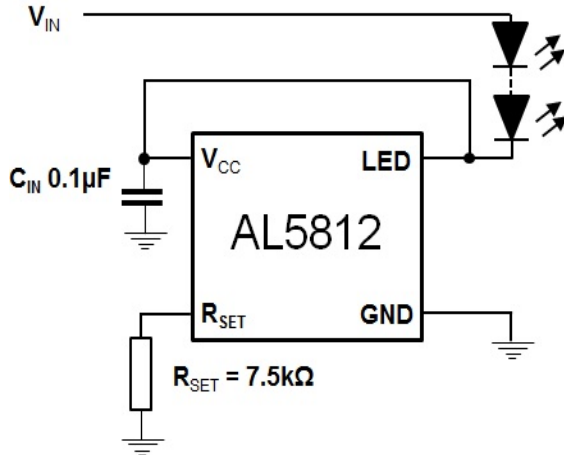
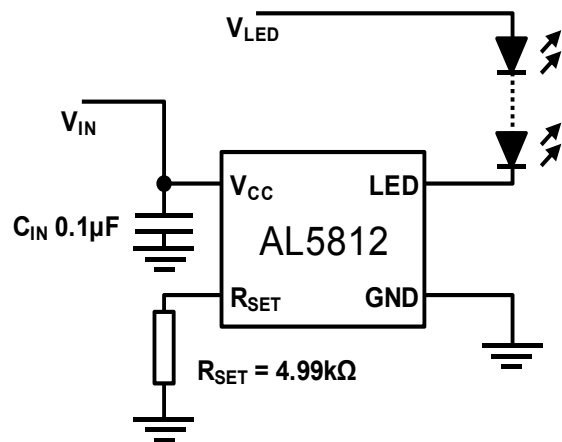
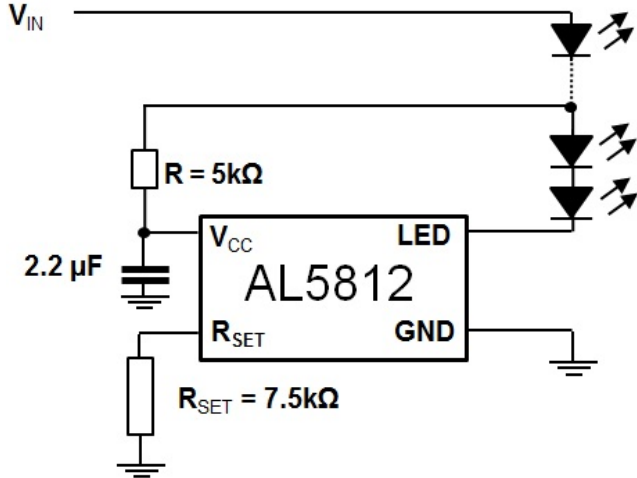
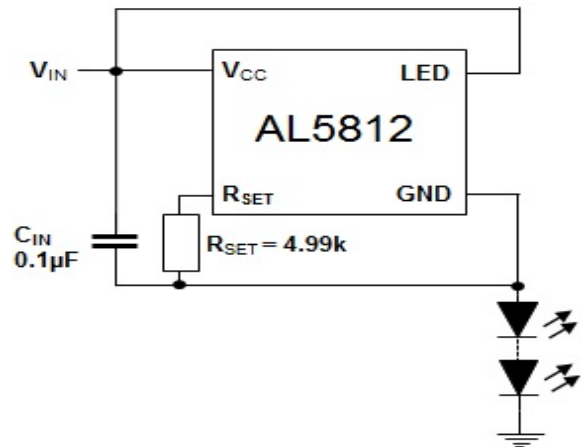

Figure 13 Low Side Current LED Setting
Figure 14 Low Side Drive – Separate Supplies
Figure 15 Low Side LED String Tapping
Figure 16 High Side Current LED String
- 13. The AL5812 has its V_{CC} pin connected to its LED pin, which are connected to the positive input supply voltage. R_{SET} is connected to AL5812 GND pin, which is connected to the anode of the LED chain. This creates a high side driver of the LED chain. See Figure 15.
The AL5812 is a Linear LED driver and in normal operation has the LEDs connected to the same potential as its V_{CC} pin and regulates the LED current by sinking current into its LED pin see Figure 13.
The AL5812 with its 60V capability on its supply pin, V_{CC} , and its LED drive pin allows it to operate from supply rails up to 60V and/or directly drive LED chains up to 60V as shown in Figures 13 and 14. The voltage applied to the V_{CC} pin can be greater or lower than the voltage applied to the LED string. Figure 14 shows where you might control it from a 5-V rail but power the rails from a 12V rail.
An extension of Figure 14 is to derive the power for the AL5812 from the LED chain itself see Figure 15. LED chains greater than 60V can be driven in this manner as long as PWM dimming is not utilized.
Figure 15 shows the use of RC delay to match the power time delay between V_{CC} and LED pin. The AL5812 can also be used on the high side of the LEDs, see Figure 16. This is a simple way of extending the maximum LED chain voltage, however, it does increase the minimum system input voltage to: